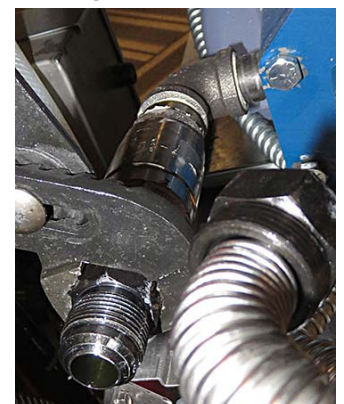

Figure 35
35. Remove the flexline adaptor and check valve from the filter pump (see Figure 35).